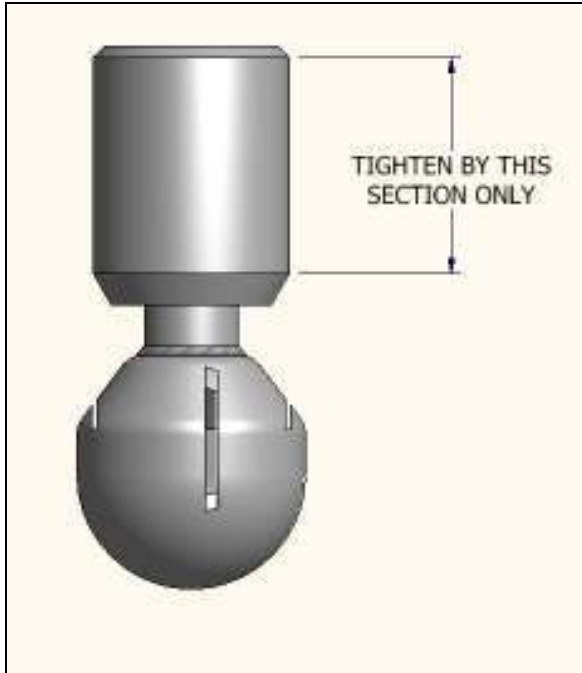

Figure 8 - Illustration of where to Tighten Threads
3. Using the strap wrench or soft jaw pliers on the thread section **ONLY** (see Figure 8) tighten the nozzle 1 to 2 turns.